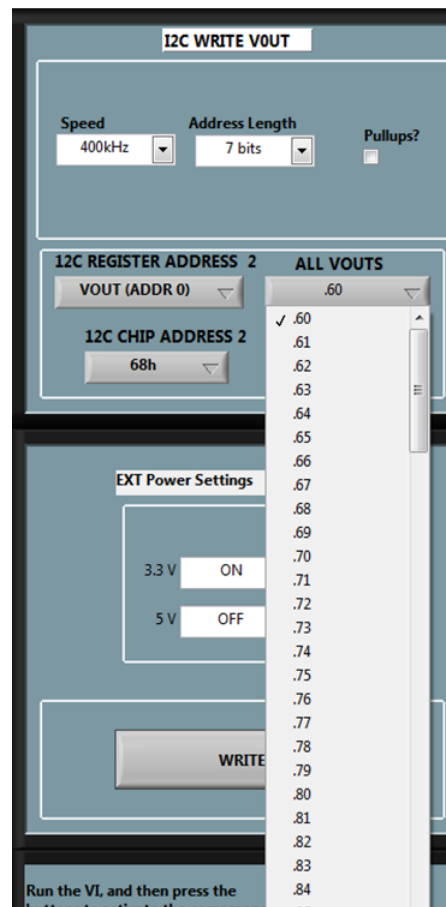

Figure 4. ALL VOUTS Control
3. Go to the VOUTS control block and click on the ALL VOUTS control, illustrated in Figure 4. The drop down menu gives an option to select different VOUT.